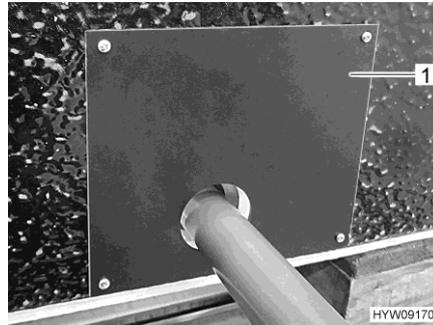

Fig. 105 Cover (waste water tank tray)
- Remove the cover (Fig. 105,1) on the waste water tank tray.
- Install the cover (Fig. 105,1).